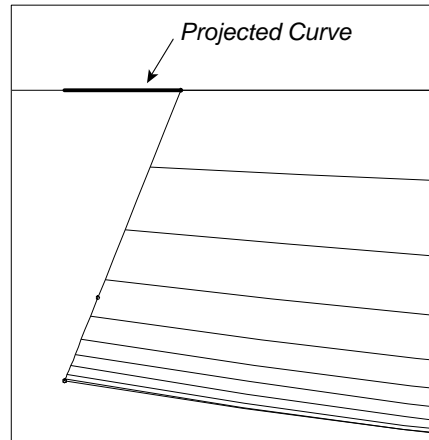

Fig. 6
**Advanced>Divisions** = 5x4 (Fig. 6)